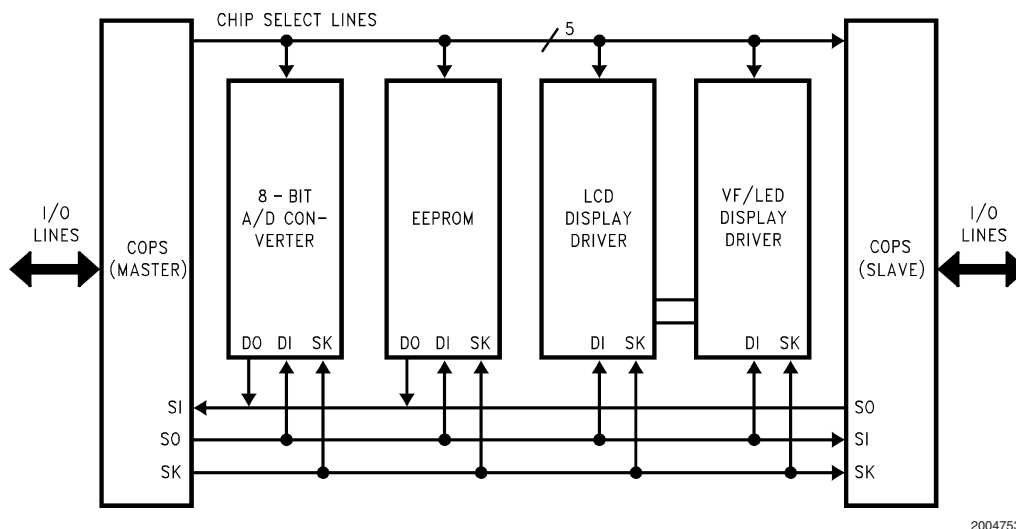

FIGURE 28. MICROWIRE/PLUS Application
MICROWIRE/PLUS is a serial SPI compatible synchronous communications interface. The MICROWIRE/PLUS capability enables the device to interface with MICROWIRE/PLUS or SPI peripherals (i.e. A/D converters, display drivers, EEPROMs etc.) and with other microcontrollers which support the MICROWIRE/PLUS or SPI interface. It consists of an 8-bit serial shift register (SIO) with serial data input (SI), serial data output (SO) and serial shift clock (SK). *Figure 28* shows a block diagram of the MICROWIRE/PLUS logic.
Setting the BUSY bit in the PSW register causes the MICROWIRE/PLUS to start shifting the data. It gets reset when eight data bits have been shifted. The user may reset the BUSY bit by software to allow less than 8 bits to shift. If enabled, an interrupt is generated when eight data bits have been shifted. The device may enter the MICROWIRE/PLUS mode either as a Master or as a Slave. *Figure 28* shows how two microcontroller devices and several peripherals may be interconnected using the MICROWIRE/PLUS arrangements.